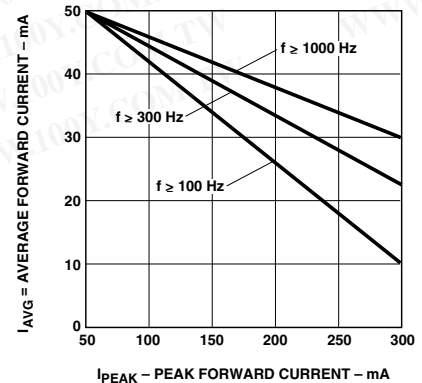

Figure 7. Maximum average current vs. peak forward current.
- Refer to Figure 7 to establish pulsed operating conditions.